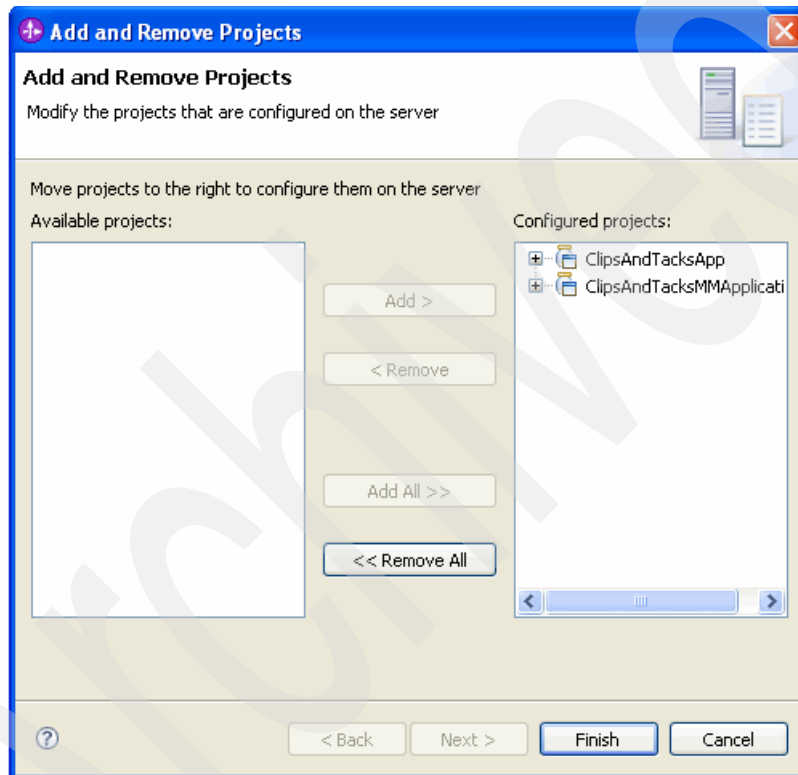

Figure 6-65 Adding ClipsAndTacksMMApplication and ClipsAndTacksApp
5. In the Add and Remove Projects window (Figure 6-65), select **ClipsAndTacksMMApplication** and **ClipsAndTacksApp** and click **Add**. Click **Finish** and wait for the application to deploy.